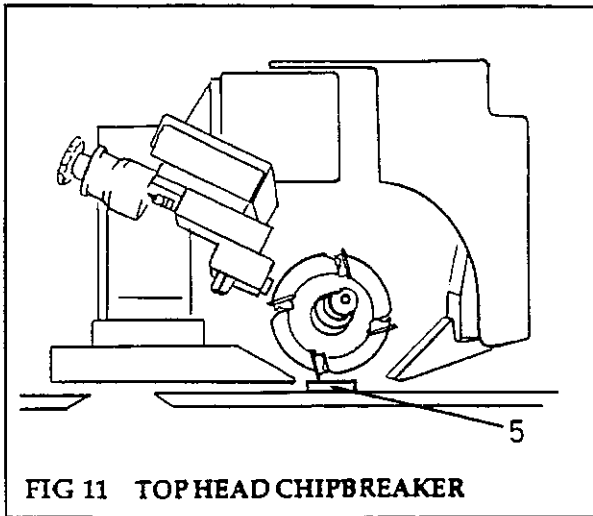

FIG 11 TOPHEAD CHIPBREAKER
- (1) Set up as follows:
- a. Remove dust/jointer hood (4)
- b. Slacken off the two locking nuts (5)
- c. With a straightedge placed along the side pad pressure (1) after the near side head, position the whole radial chipbreaker unit by turning the hand wheel (2) such that the cutterblades just touch the straightedge. With this set the chipbreaker should be approximately 2mm nearer the fence than the side guide.
- (2) Tighten up locking nuts (5)
- (3) Slacken off the side pad pressure locking nut (3) and reposition the pad pressure laterally so the nose is approximately 5mm from the cutterblock.
- (4) Loosen the two nuts (6) holding the chipbreaker and reset this so that the nose is approximately 20mm from the cutterblock.
- (5) Tighten up nuts (6)
**TOP HEAD** (Fig 10, Fig 11)